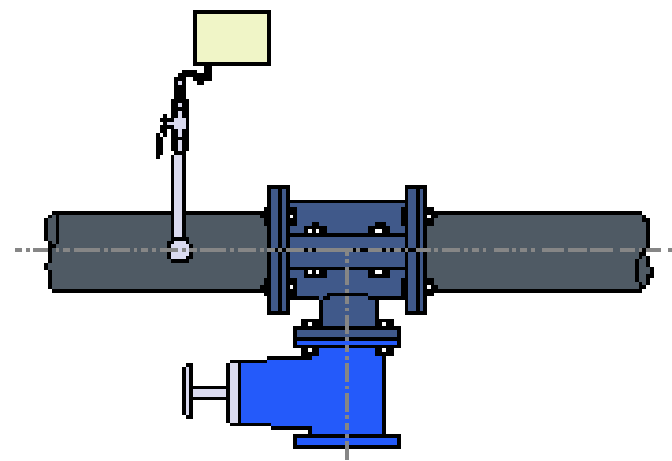

Figure 27- Under Pressure Tee and Valve
6. Slowly rotate the UPT connection to the correct position for the off take, see Figure 27.